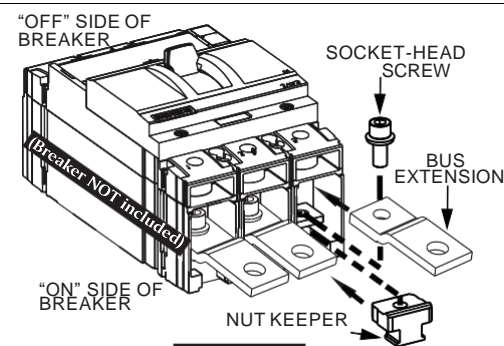

Fig. 3
6. Select the proper nut keepers and slide them under each phase of the breaker stabs on the "ON"-side of the breaker. They "click" into place when properly inserted. (See Fig. 3)